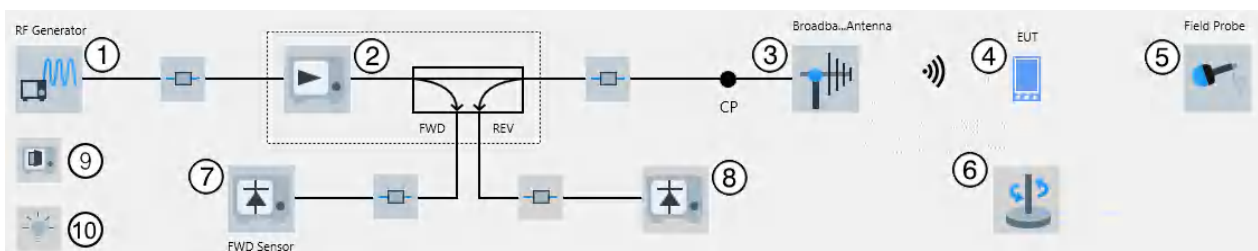

Figure 4-153: EMS hardware setup diagram (radiated) for an Anechoic Chamber in EUT Test View
- The "EUT Test View" (see Figure 4-153)
If you select a receiver instead of the field probe (default for (5) in Figure 4-153), the hardware setup also requires an antenna. The diagram changes as follows: